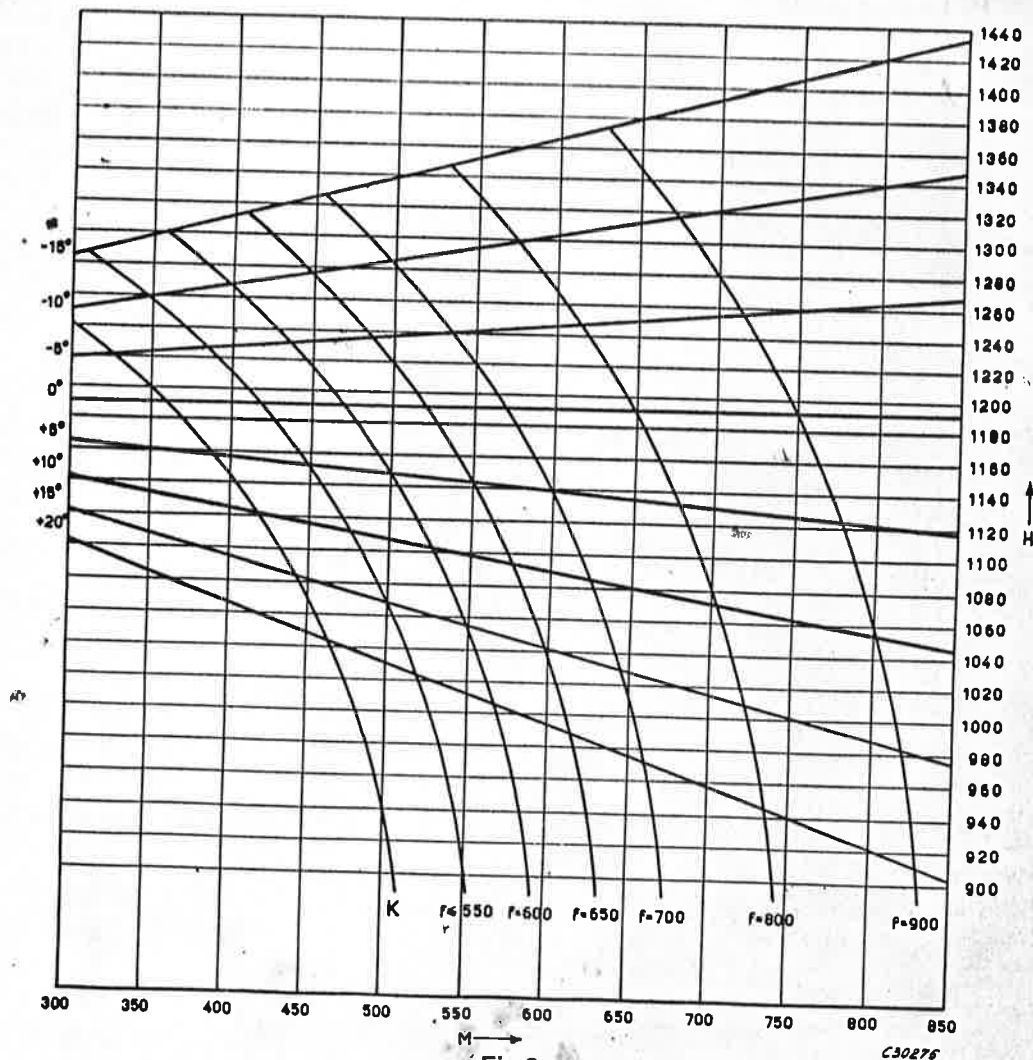

Fig.3
- Fig. 3 Graph for the determination of the booth window height and distance to the booth wall.
This distance has to be taken from the center of rotation of the mounting plate to the booth front wall. In view of an easy control, it is recommended not to make this distance too small. The smallest admissible distance for a projector without slide projector has been indicated in Fig. 3 by the curve K. For a projector with slide projector this distance is determined by the curve f  $\leq$  550. If the amplifier casing is mounted between both projectors, take into account on one part that the projector doors can be opened far enough and that on the other part the door of the amplifier casing can be opened far enough to be able to take the amplifier out of the casing.